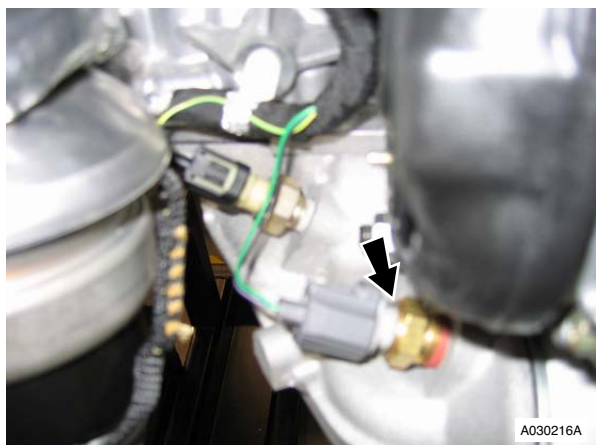

Figure 5
14. Disconnect multiplug from engine electric coolant temperature sensor (see Figure 5).
34. Note that piston grade number on crown and thick flange on connecting rod faces to front of engine on LH bank (B) (see Figure 5).